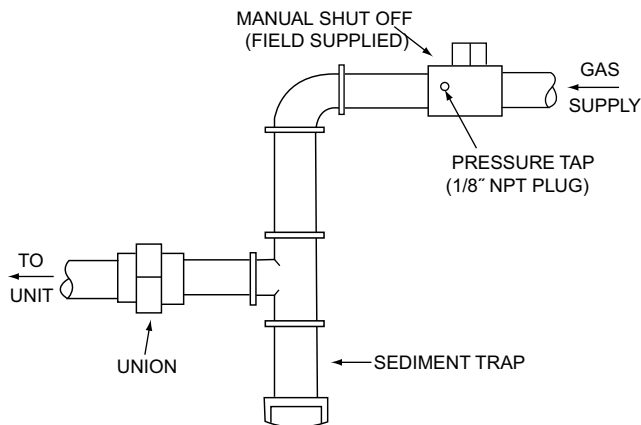

Fig. 6 — Field Gas Piping
2. Connect pressure gauge to supply gas tap, located on field-supplied manual shutoff valve. (See Fig. 6.)